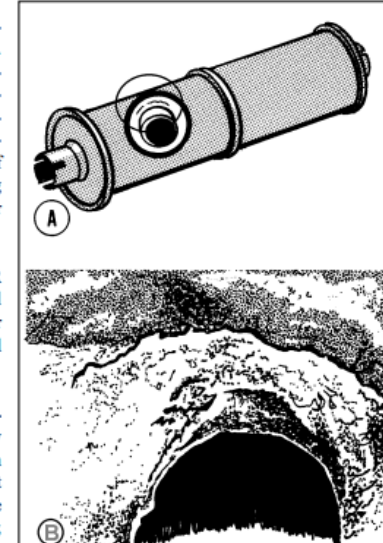

FIGURE 8-13. Typical muffler wall fatigue failure at exhaust outlet. (A. Complete muffler assembly with heat shroud removed; B. Detail view of failure.)
a. Failures in the heat exchanger's surface (usually the muffler's outer wall) allow exhaust gases to escape directly into the cabin heat system. The failures are, for the most part, attributed to thermal and vibration fatigue cracking in the areas of stress concentration; e.g., tailpipe and stack, inlet-attachment areas. (See figures 8-13 through 8-16.)